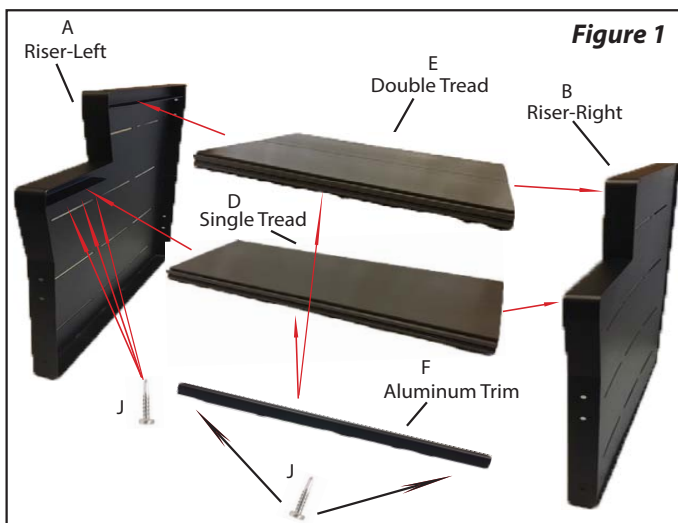

Figure 3
Remove the 1/4 x 3/4" flat head screws, 1/4 washers and the 1/4 nylon locknuts from the rear brace on the ModStep 2. Next, attach the ModStep 4 assembly to the ModStep 2 using the (6) 1/4 x 3/4" flat head screws, (6) 1/4 washers and the (6) 1/4 nylon locknuts (see Fig. 3).